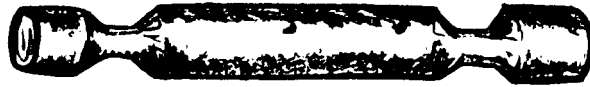

Figure 4-17 Ice-crete Defences - Notched Log - Type 3
- c. Type 3. This is simply building up a form on the principle of a log cabin. It has been found that this is the most time consuming one to build because all logs must be near the same thickness and all logs have to be notched at the corners to interlock with each other (see Figure 4-17).